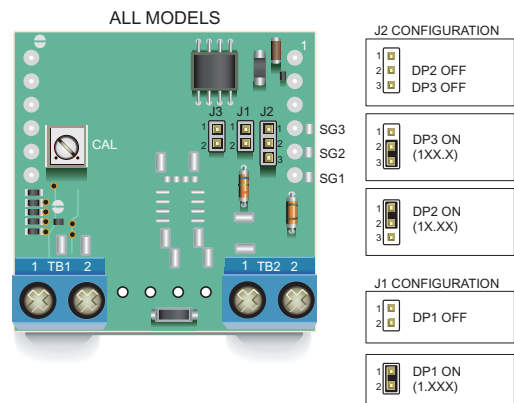

Figure 6. Decimal Point Selection Using J2 and J1 (Applies to All Models)
- 7. Decimal Point Selection:** As shown in the Ordering Information guide, DCA5-20PC ammeters are multiple input-range devices. For example, with a 50mV input, DCA5-20PC-1-DC1 models can be configured to display "5.00", "50.0", or "500" Amps by simply removing or relocating decimal-point-selector jumper J2 (see Figure 6). Decimal points serve as placeholders only; they have no effect on displayed accuracy or resolution. If jumper J2 is not available, solder gaps SG1, SG2, or SG3 can be used to select DP1 ("1.XXX"), DP2 ("1X.XX"), or DP3 ("1XX.X"), respectively.